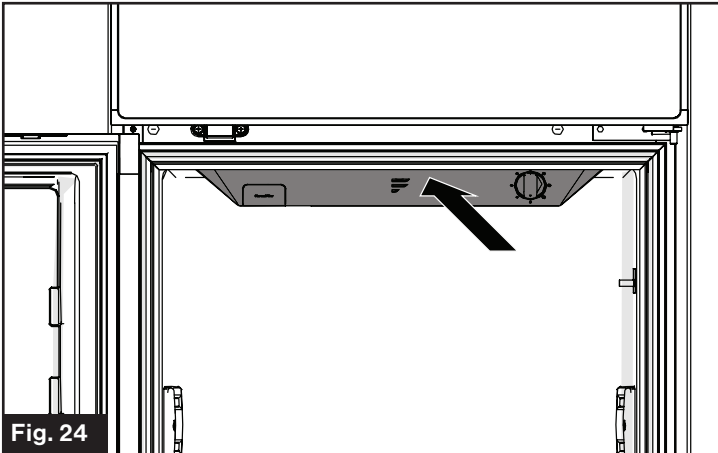

Fig. 24
2. Press the cover backwards toward the rear of the unit and open it. (Fig. 24)